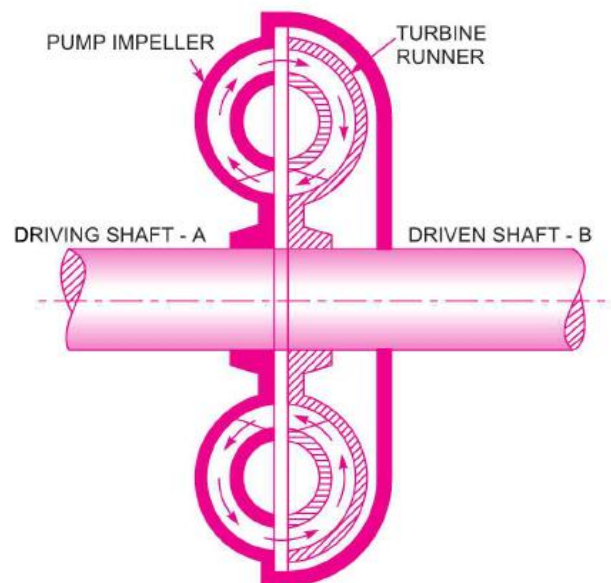

Fig.10.8 –Hydraulic Coupling
- ▶ It consists of a radial-pump impeller mounted on a driving shaft 'A' and a radial flow reaction turbine mounted on the driven shaft 'B' as shown in Fig.10.8.